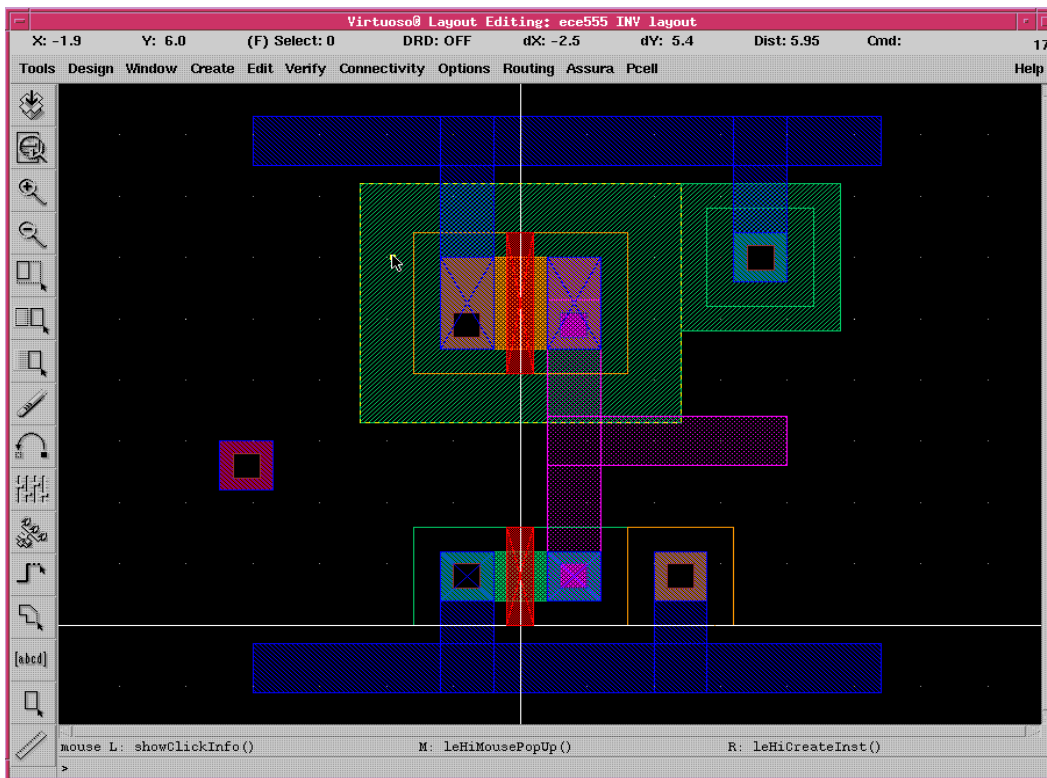

Fig. 12. Circuit after placing the contacts
- Fig. 12 shows you the placement of the contacts.